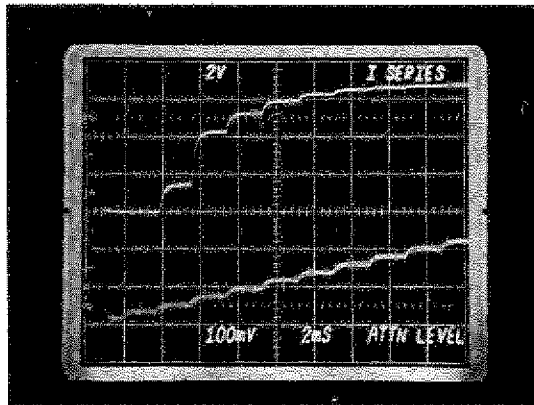

FIGURE 6-5
- (1) Connect an 0.47uf capacitor across A203C2.
- (2) Connect the Channel A 10X probe of scope to A203J1 pin 1 (I_{series}). Connect Channel B 10X probe to A203TP17.
- (3) Remove and ground cable to A204J4.
- (4) Connect jumper between A203TP14 and TP16.
- (5) Select a value for A203R18 so the first two or three steps of the Attenuator Control Ramp have no effect upon I_{series} (see Figure 6-5).
- (6) Remove jumper between A203TP14 and TP16. Remove capacitor. Reconnect cable to A204J4.
- (7) Apply a 0 dBm, 1.4 GHz CW signal to Band B input.
- (8) Press RESET switch. Increase signal level to the Band B input until the REDUCE SIGNAL light comes on. (Light should come on between +4 and +6 dBm. If it does not, select a new value for A203R17, and repeat steps (7) and (8) until it does.)